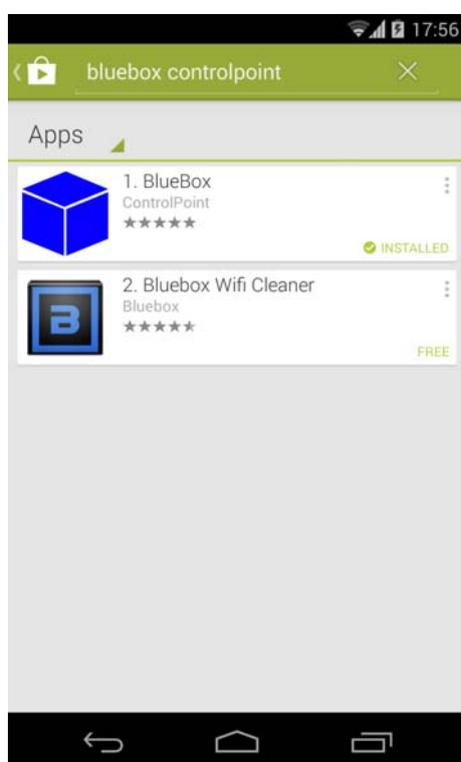

Figure 1
1. On the download manager application search *bluebox controlpoint*. Having found it a cube of blue colour and text BlueBox ControlPoint (2nd APP in *Figure 1*) is shown.